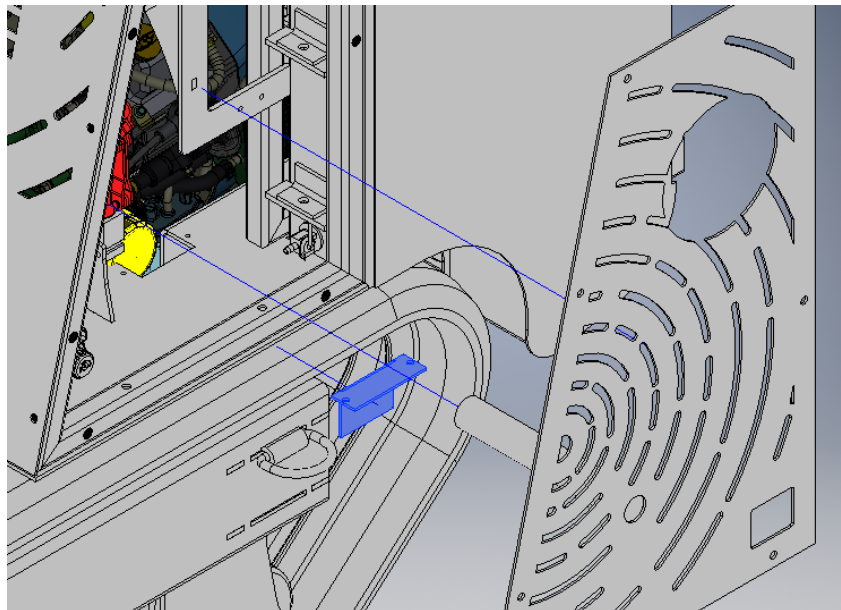

Fig 21
1. Remove the cover plate directly across from the oil filter. If not, you will not have enough room to remove the filter. Refer to engine manual for type of oil filter. **(Fig 21)**